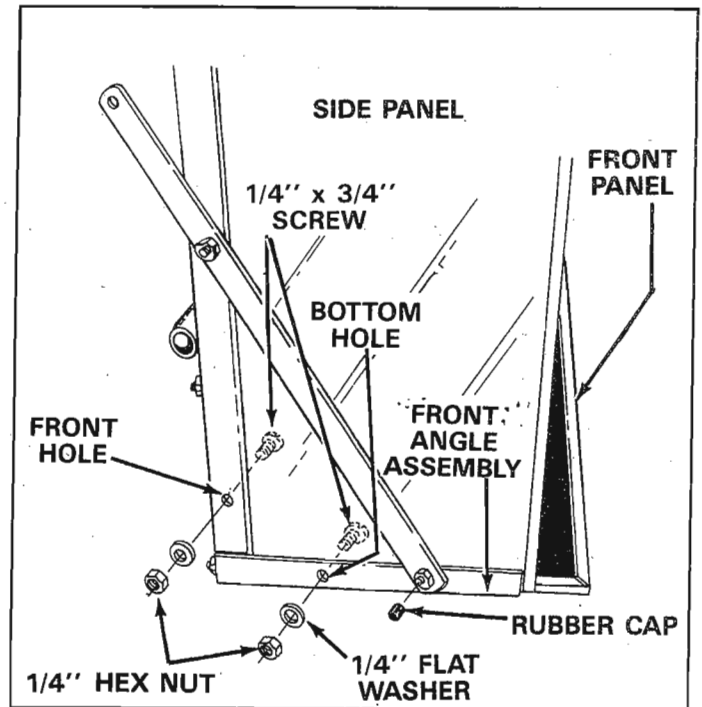

FIGURE 7
- Now tighten all nuts and screws securely. Install rubber cap on top screws installed in step 10 and step 11 as shown in figure 7.